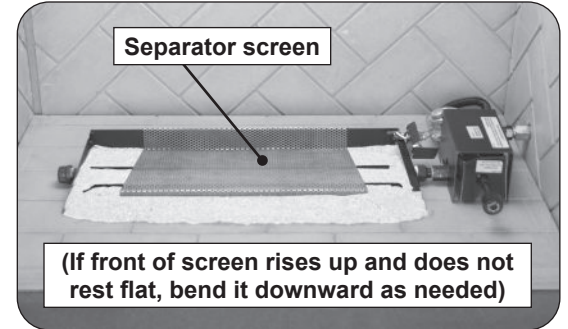
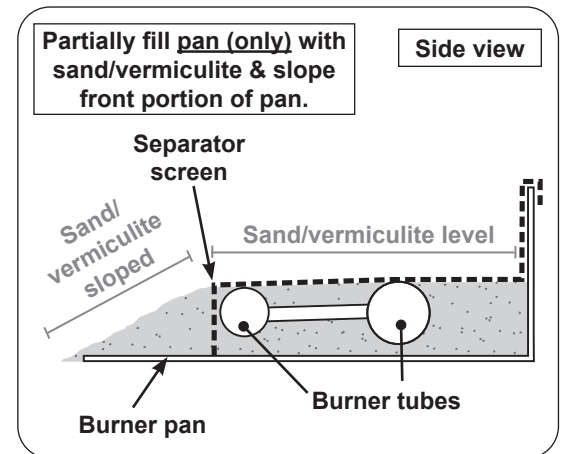

Fig. 19-2 Place screen
Fig. 19-3 Sand/vermiculite & screen detail
- Slope the sand/vermiculite in the front portion of the pan (see Fig. 19-3).
- Place the separator screen over the sand/vermiculite and pan. The rear of the screen must hook over the rear of the burner pan as shown in Fig. 19-2 and Fig. 19-3.